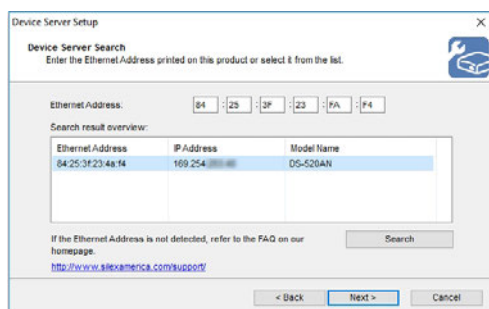

FIG. 20 – SELECTING THE DEVICE FROM THE LIST
- ! Even if there is only 1 device listed, select this device from the list to properly mark it (☑ Fig. 20 – see above). Otherwise, the next configuration step may fail.